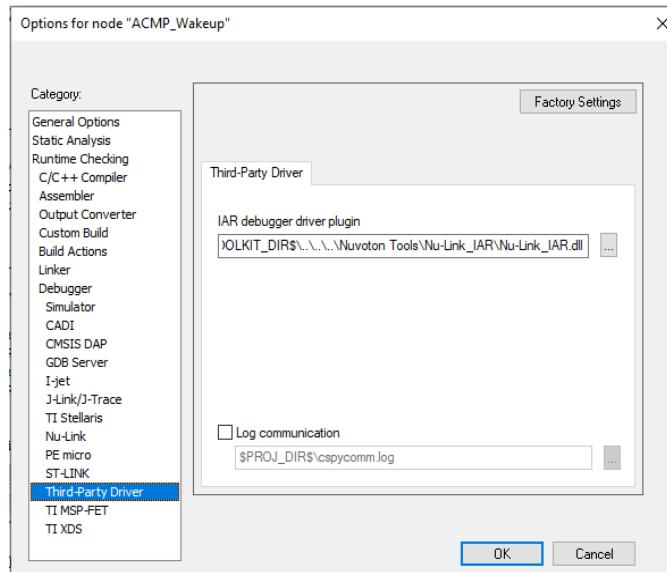

Figure 5.2-31 Set the Path of the IAR EWARM Debugger Driver Plugin
- (7) In the **Third-Party Driver** page, specify the path of the IAR debugger driver plugin “C:\Program Files\Nuvoton Tools\Nu-Link_IAR\Nu-Link_IAR.dll”, as shown in Figure 5.2-31.